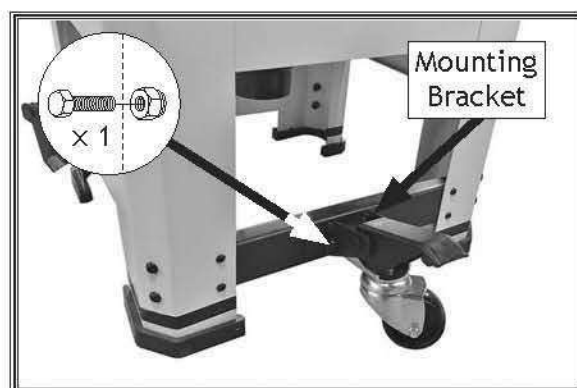

Figure 15. Caster installed on leg brace.
4. Install caster on leg brace mounting bracket with (1) M8-1.25 × 65 hex bolt and (1) M8-1.25 lock nut (see **Figure 15**).